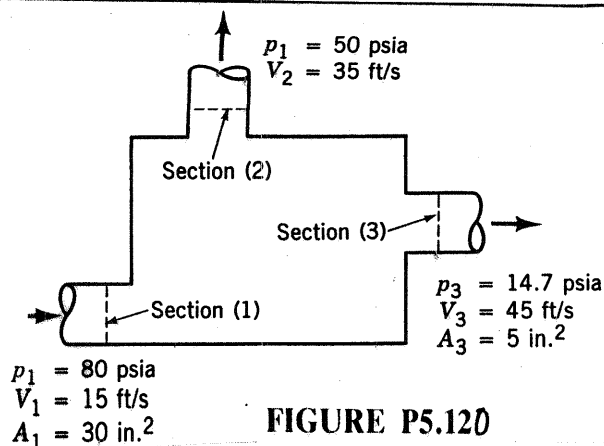

FIGURE P5.120
5.120 A liquid enters a fluid machine at section (1) and leaves at sections (2) and (3) as shown in Fig. P5.120. The density of the fluid is constant at 2 slugs/ft³. All of the flow occurs in a horizontal plane and is frictionless and adiabatic. For the above-mentioned and additional conditions indicated in Fig. P5.120, determine the amount of shaft power involved.